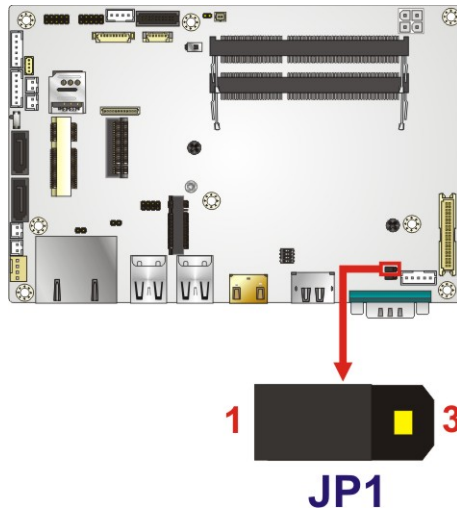

Figure 4-14: LCD Voltage Selection Jumper Location
- CN Location:** See **Figure 4-14**